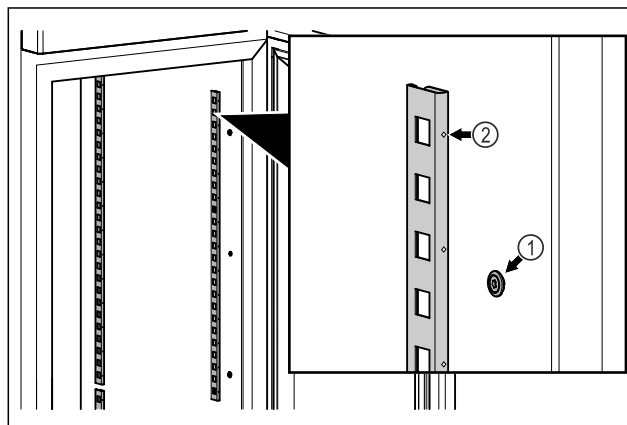

Fig. 83 Example illustration
- ▶ Hook the snap strips into the suspension Fig. 83 (1). Mark Fig. 83 (2) must point forwards.